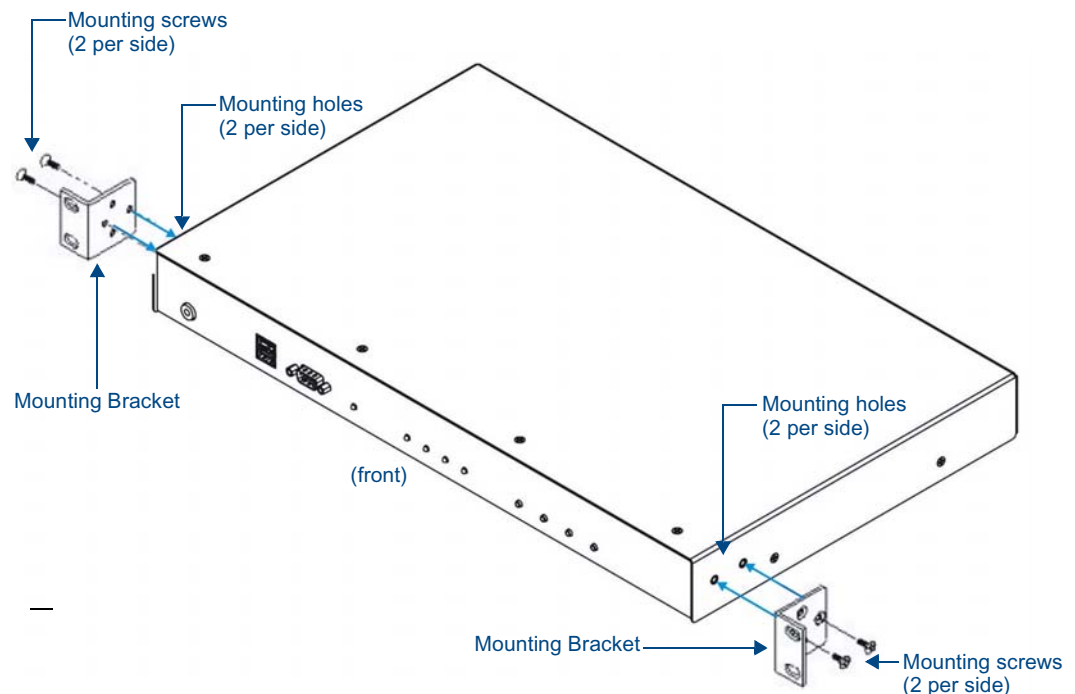

FIG. 5 Rack-Mounting the TPI-PRO
2. Position and install the mounting brackets, as shown in FIG. 5, using the supplied mounting screws. The mounting brackets can be rotated to accommodate your mounting needs.